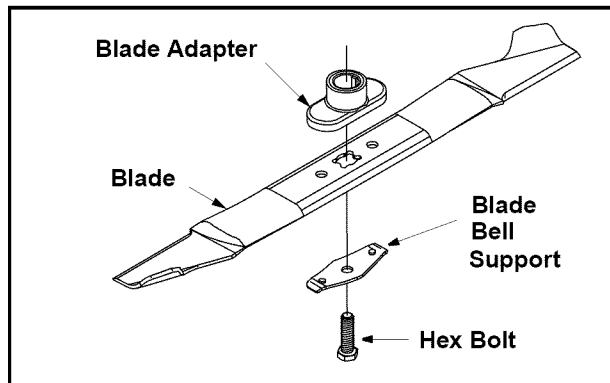

Figure 13
- Remove the bolt and blade support which holds the blade and adapter to the engine crankshaft. See Figure 13. Remove the blade and adapter from the crankshaft.
- Install the blade adapter on the crankshaft with the "star" away from the engine. Refer to Figure 13. Place the blade with the side marked bottom (or with part number) facing away from the adapter.